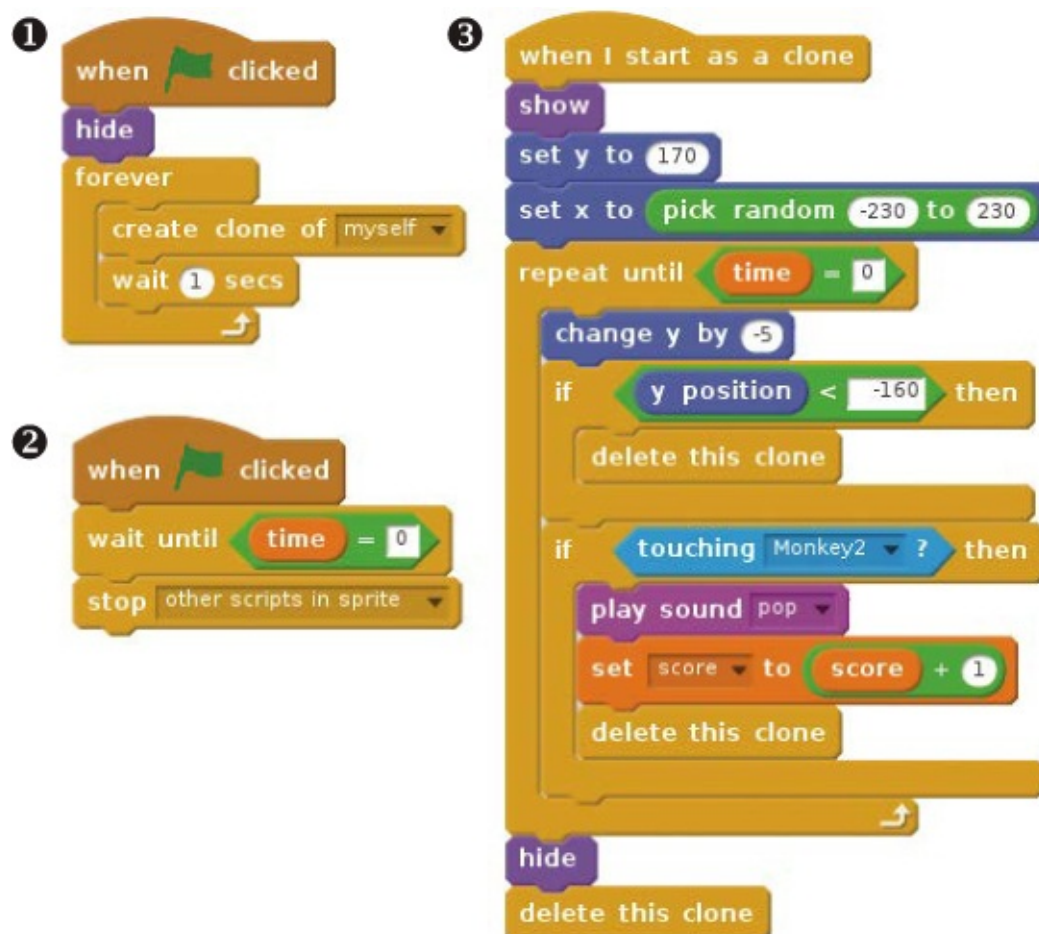

FIGURE 19-11: Blocks for creating and controlling the Bananas sprite
To accomplish everything in the to-do list, select the Bananas sprite, and then add the blocks in Figure 19-11 to its scripts area.
With the upper-left set of blocks **1** in Figure 19-11, you create a clone of the Bananas sprite every second. In other words, you make a new Bananas sprite appear every second.
The blocks in the lower left ❷ of Figure 19-11 stop the creation of new `Bananas` clones when the `time` variable hits 0.
You now have the monkey, the good bananas, the timer, and the score. You're just missing the rotten bananas. The script for the rotten bananas is really similar to the script in Figure 19-11; you just need to make these changes: